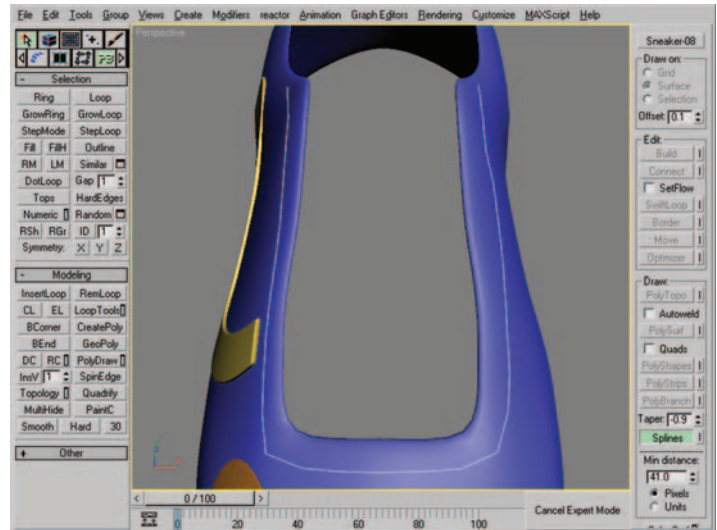

Figure 12.45 Spline drawn onto the surface of the sneaker mesh.
3. Draw a spline that follows the shape seen in Figure 12.45.